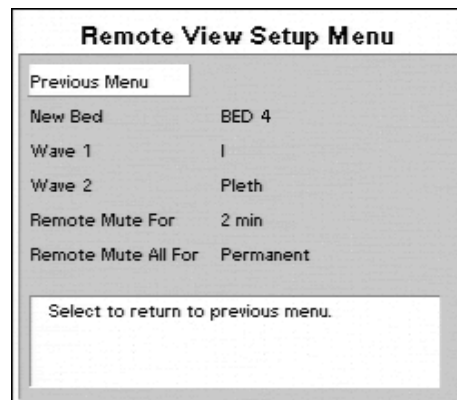

FIGURE 2-11 Remote View Setup Menu
2. **Setup** — this selection opens the **Remote View Setup Menu** shown in FIGURE 2-11. This menu enables the user to configure the display and functionality of the **Remote View Menu**.